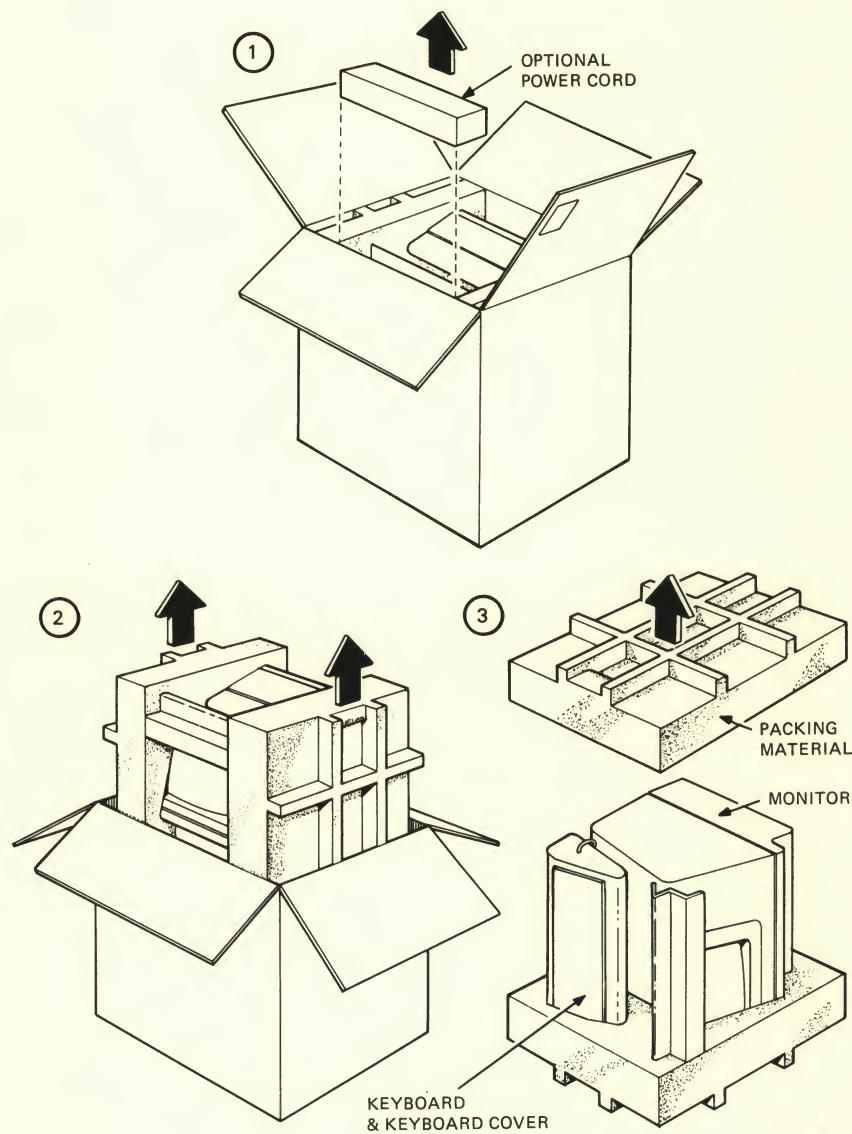
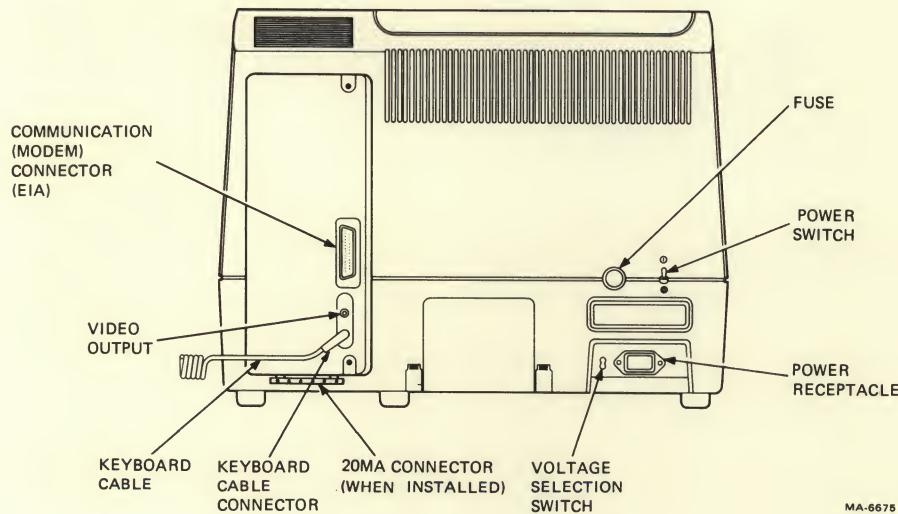

Figure 6-2 Terminal Packing
Figure 6-3 Monitor Controls and Connector Locations
Figure 6-2 shows the packaging used for the terminal. Use the following procedure to unpack the terminal from the shipping carton.
Use the following procedure to pack the terminal for shipment. (Figure 6-2 shows the packing, Figure 6-3 shows switch and cable locations.)
Use the following procedure to install the terminal. (Refer to Figure 6-3 for switch and cable locations.)
1. Turn the power switch to the on (1) position (Figure 6-3). The terminal automatically runs the power-up self-test. The test provides the following indications.